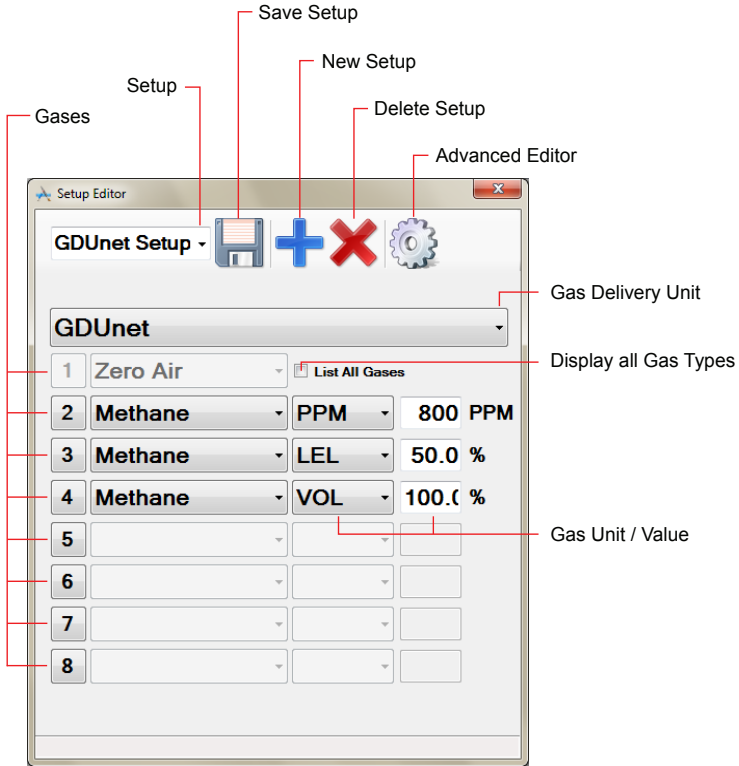

Fig. 3-10 Setup Editor
To access this feature, select the Setup Editor  button. The window, illustrated in Fig. 3-10, is displayed.
From the Setup Editor window, illustrated in Fig. 3-10, it is possible to navigate through the main functions required to create a new setup, or edit an existing setup for test / calibration.
As illustrated in Fig. 3-10, the 'GDUnet Setup Template' references 'GDUnet' as the hardware required to test / calibrate instruments.
- On completion, select  to return to the setup editor window, as illustrated in Fig. 3-10.
This option is password protected and is accessed by selecting 'Advanced Editor' button  from the 'Setup Editor' window, illustrated in Fig. 3-10.
This option is password protected, and can be accessed by selecting 'Advanced Editor' button  from the 'Setup Editor' window, illustrated in Fig. 3-10.